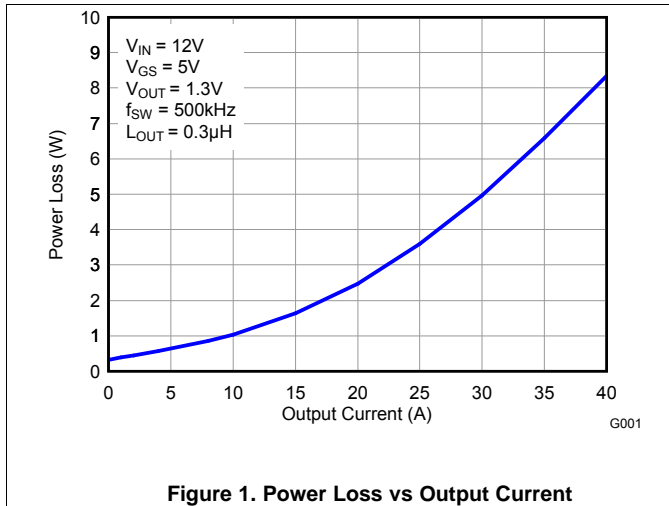

Figure 1. Power Loss vs Output Current
MOSFET centric parameters such as  $R_{DS(ON)}$  and  $Q_{gd}$  are needed to estimate the loss generated by the devices. In an effort to simplify the design process for engineers, Texas Instruments has provided measured power loss performance curves. **Figure 1** plots the power loss of the CSD86350Q5D as a function of load current. This curve is measured by configuring and running the CSD86350Q5D as it would be in the final application (see **Figure 32**). The measured power loss is the CSD86350Q5D loss and consists of both input conversion loss and gate drive loss. **Equation 1** is used to generate the power loss curve.
The power loss curve in **Figure 1** is measured at the maximum recommended junction temperatures of 125°C under isothermal test conditions.
- Power loss at 25 A = 3.5 W (Figure 1)